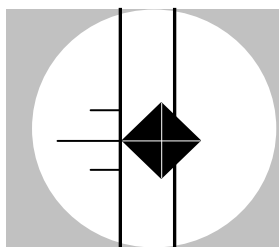

Figure 5-9 Move Left Filar Line to Left Tip
5. Turn the filar positioning knob to move the left-hand line to the left indentation tip as Figure 5-9 illustrates. This operation will move both lines.